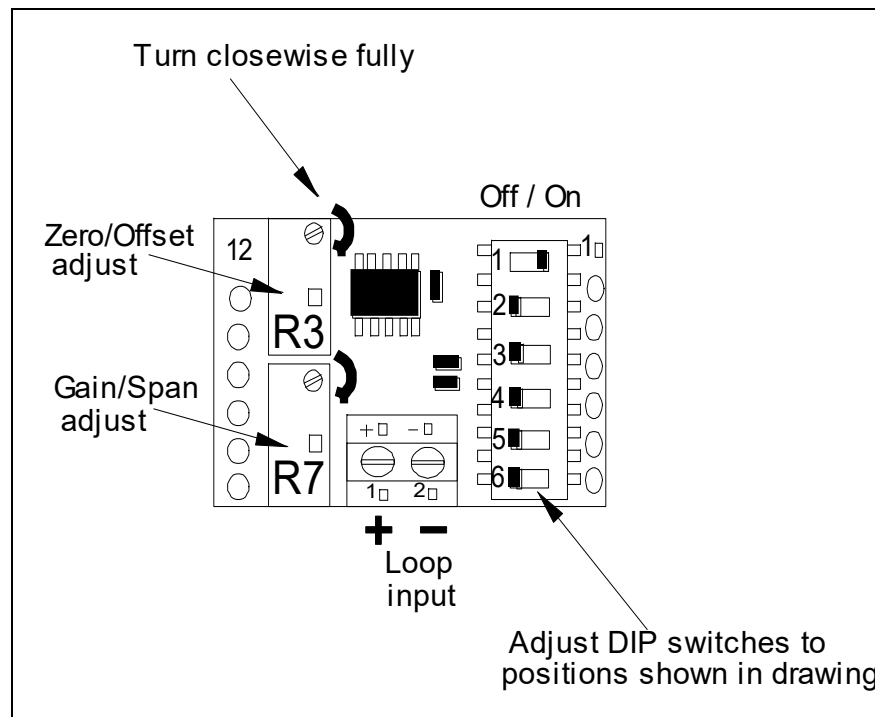

Figure 5-1 Optional Display Calibration Procedure
2. Set all the DIP-switches as shown in Figure 5-1.